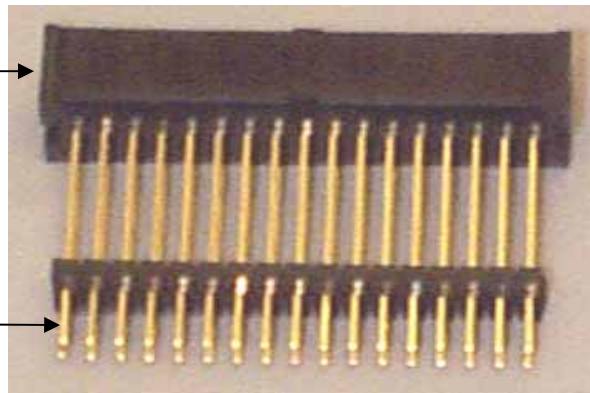

Figure 9-2 . 34-Pin Interface Connector
2. Once the connection has been made to the backplane, use the connector shell to guide the pins of the 34-pin interface connector into the termination board connector. See Figure 9-2. Use caution; you will not be able to see the connection being made within the housing.